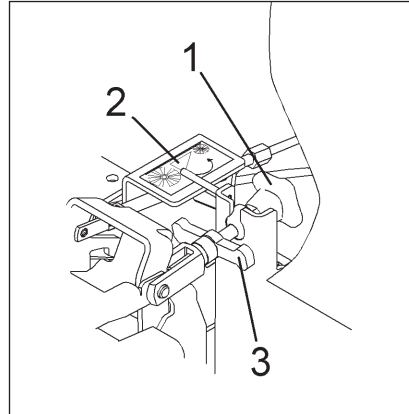

Fig.17
The sweeping track width can be adjusted by the star-shaped knob (Fig. 17/1) as follows:
- Loosen handle (Fig. 17/3)
- Turn star-shaped knob (Fig. 17/1) to the left = wider sweeping track to the right = smaller sweeping track
- Fix handle (Fig. 17/3)
- Sticker broom adjustment (Abb.17/2)